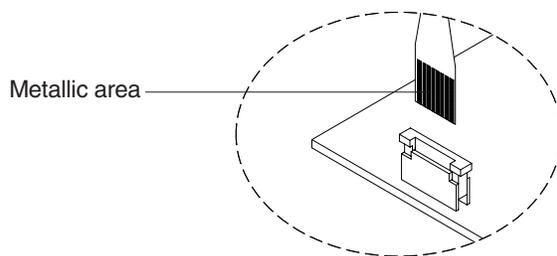

Figure 52. Removing the flexible cable from the connector holder
1. Pull up on the connector holder (see Figure 52).